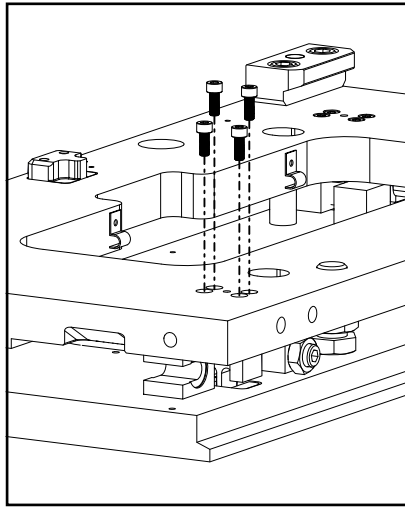

Figure 8-3. Remove Screws from Back Plate
7. Use 6 mm hex wrench to remove the sixteen hex screws securing the back plate to the flexures (four screws per flexure; see Figure 8-3).